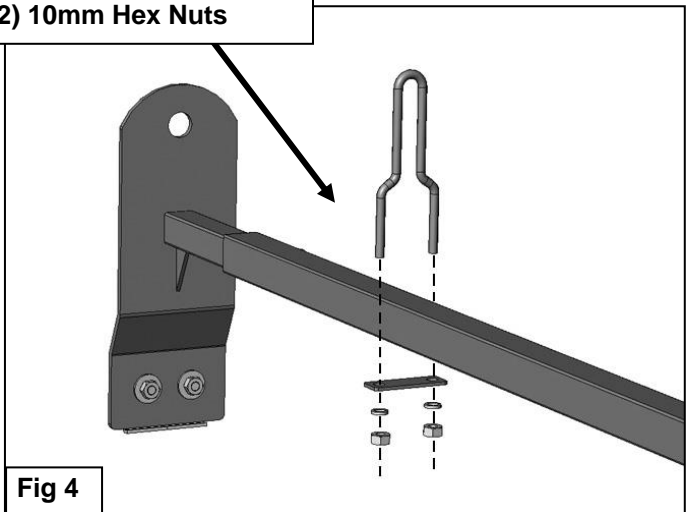

Fig 4
8. Select (1) Load Positioner U-Bolt and (1) 2-Hole Clamp Plate, **(Figure 4)**. Slide the U-Bolt down and over the Outer Cross Bar. Secure the Positioner to the Cross Bar tube with the 2-Hole Lock Plate, (2) 10mm Flat Washers, (2) 10mm Lock Washers and (2) 10mm Hex Nuts. Adjust Load Positioner location and tighten hardware. Repeat this Step for the remaining (2) Cross Bar assemblies.